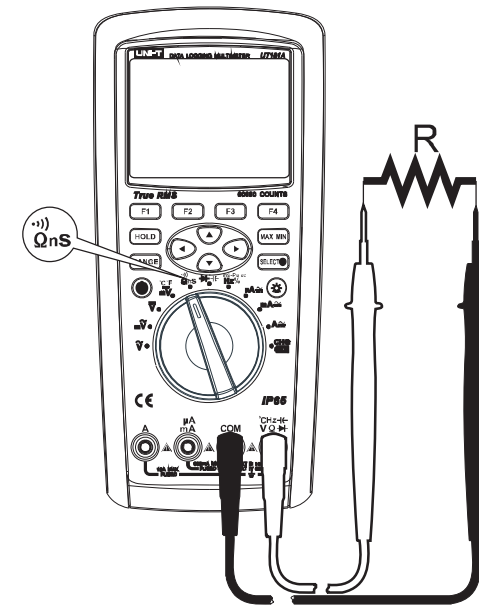

Figure 8
- 2) Set the rotary switch to the measurement Ω nS \rightarrow and current Ω is the default resistance measurement as shown in Figure 8. Connect the test leads to both ends of the measured resistance.
- 2) Set the rotary switch to the measurement Ω_{ns} , press the key SELECT to select conductance measurement 60nS. Connect the test leads to both ends of the measured resistance as shown in Figure 8.
- 2) Set the rotary switch to the measurement Ω nS ()), press the key SELECT to select the continuity test ()). Connect the test leads to both ends of the measured resistance as shown in Figure 8. Press the function key MENU (Menu) to enter the menu items. If pressing the key SHORT (Menu), then the buzzer selects